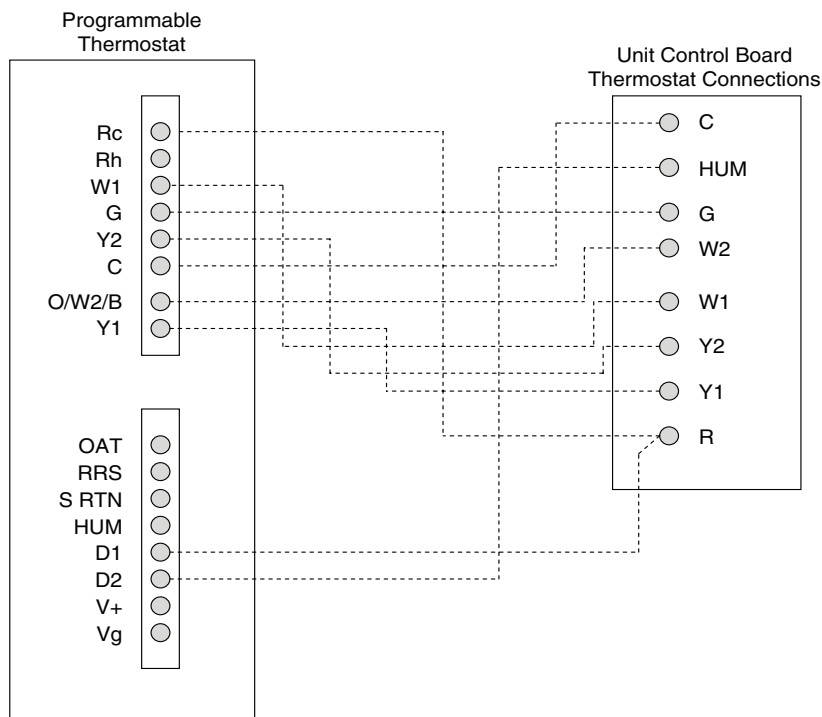

Fig. 43 — Typical Rooftop Unit with Humidi-MiZer® Adaptive Dehumidification System and Edge® Pro Thermidistat Device
3. The Thermidistat has dry contacts at terminals D1 and D2 for dehumidification operation (see Fig. 43). Connect D1 to the R terminal on the UCB. Connect D2 to the HUM terminal on the UCB. Refer to the installation instructions included with the Carrier Edge® Pro Thermidistat device for more information.